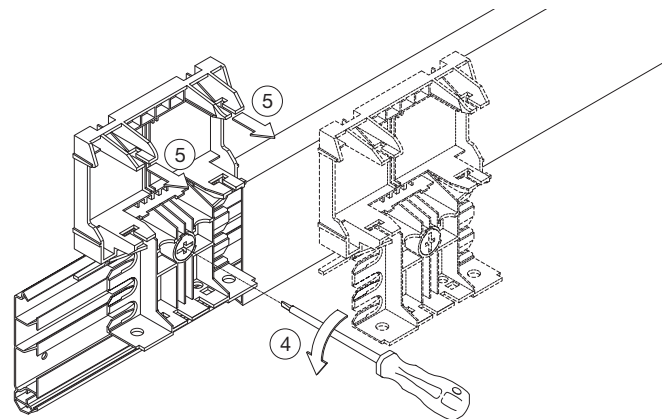

Figure 11
3. Remove the bottom part (fig. 11)